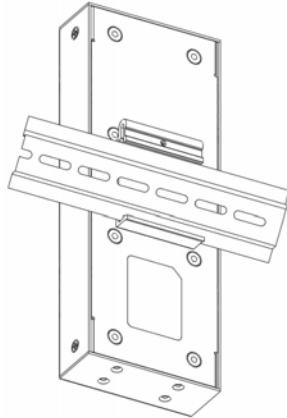

Figure 8
2. Insert the top of the DIN-Rail clip onto the DIN-Rail track, then gently push the bottom of the hub to secure it to the DIN-Rail track. See **Figure 8**.